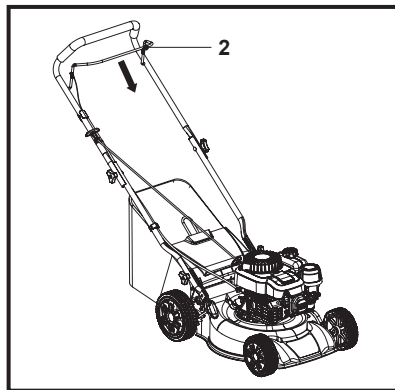

Fig. 16
1. Release the brake lever (2) to stop the engine and cutting blade (27) (Fig. 16).